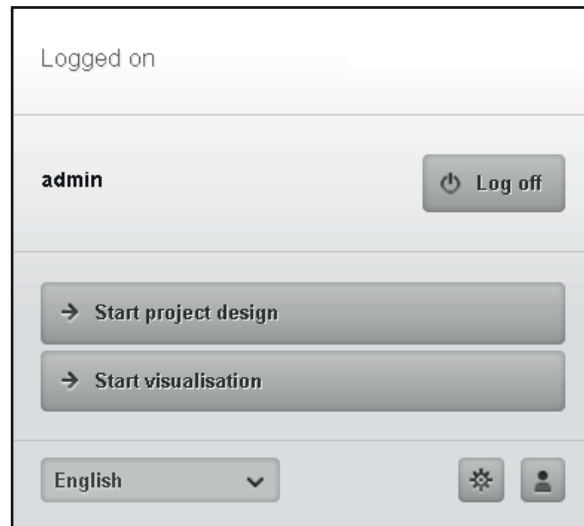

Figure 17: Selection screen after log-on by the administrator
After successful log-on by the administrator the selection screen (Figure 17) is displayed loaded.
- i** The administrator has access rights to the project design (**Start project design**) and the visualisation (**Start visualisation**), to the configuration management  and user administration  (Figure 17).
Configuration management is opened using the  button in the log-on screen (Figure 17).